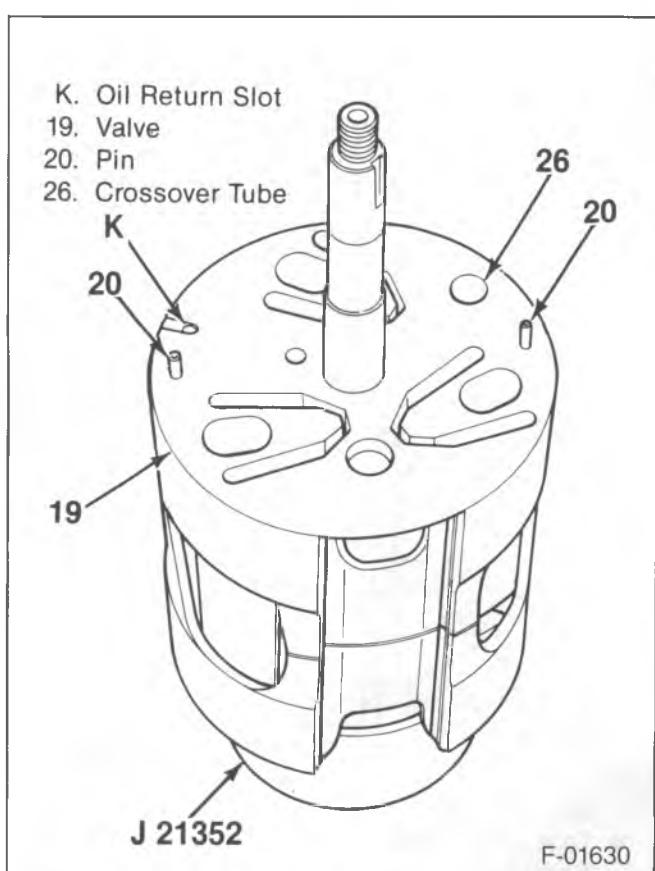
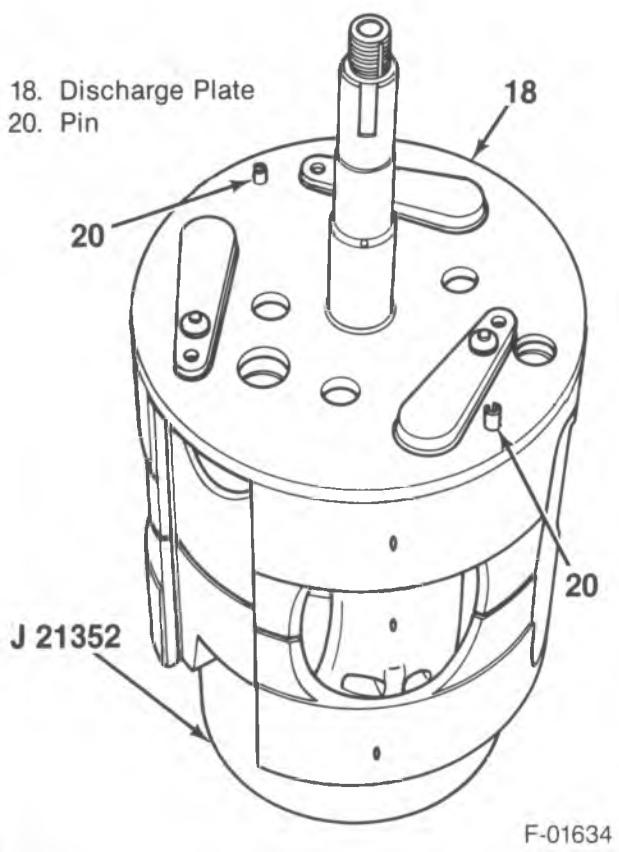
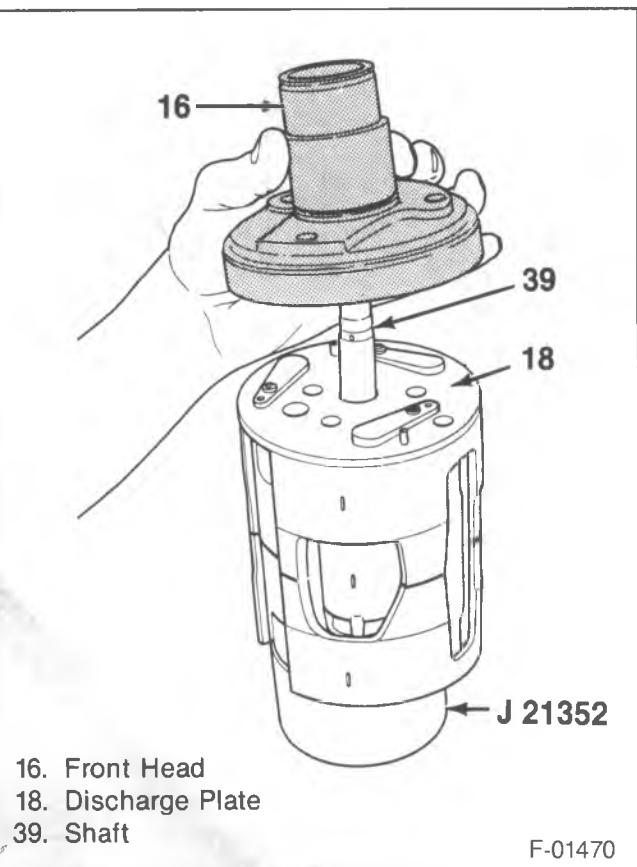

Figure 44—Installing the Front Suction Reed Plate
Figure 45—Installing the Front Discharge Valve Plate
Figure 46—Installing the Front Head
10. Dowel pins (20) to the front cylinder (figure 44).
11. Front suction reed plate (19) to the front cylinder half (29) (figure 44).
- Align the dowel pins (20), suction ports, oil return slot and discharge cross-over tube (26).
12. Front discharge valve plate (18) (figure 45).
- Align the holes with the dowel pins (20) and the openings in the front suction reed plate (19). The front discharge plate (18) has a large hole in the center.
13. Front head (16) (figure 46).
- Determine the position of the front head (16) in relation to the dowel pins (20).
- Mark the position of the dowel pins (20) on the sides of the front head (16) and on the sides of the internal assembly with a grease pencil.
- Lower the front head (16).